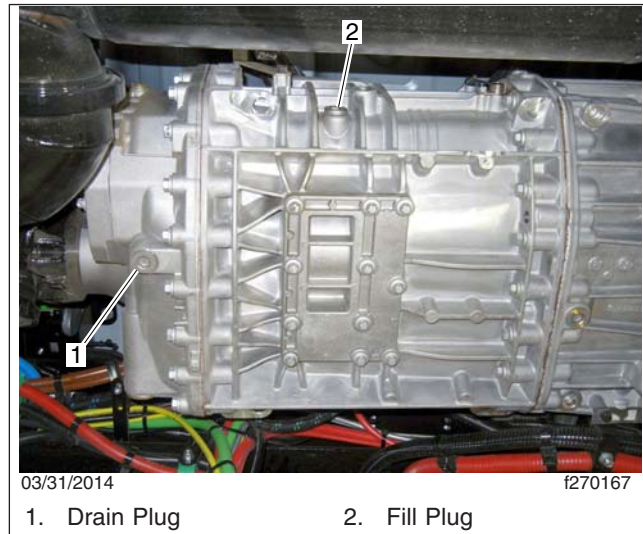

Fig. 9, Drain and Fill Plugs, Detroit Automated Transmissions
2. Clean the area around the fill plug, then remove it from the side of the gear case. Remove the drain plug from the bottom of the case. See Fig. 9.